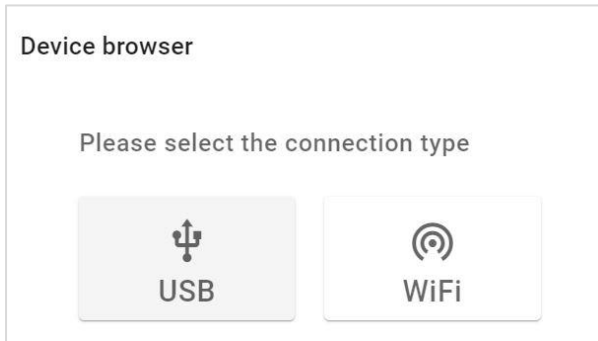

Figure 40
- Press and select **USB** (Figure 40).